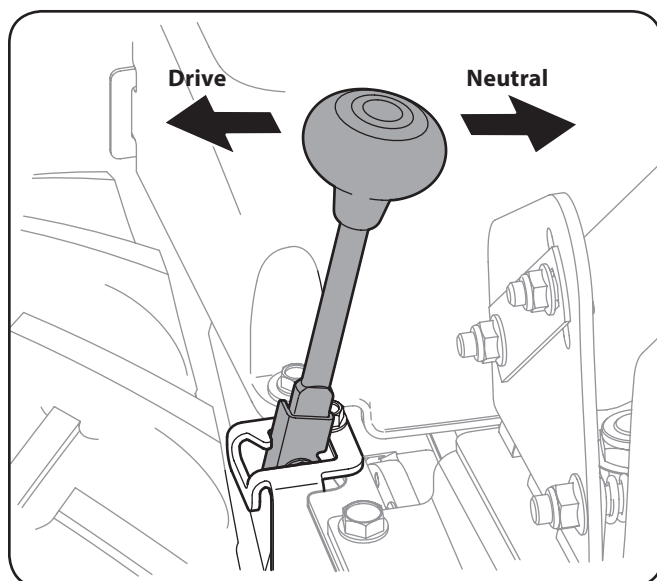

Figure 5-1
1. Place the neutral lever in the NEUTRAL position by pulling back on the neutral lever and moving it to the right. See Figure 5-1.
3. To adjust the side shields, remove the wing nuts. Move the side shield to the desired position and replace the wing nuts. Tighten securely. See Figure 5-1.